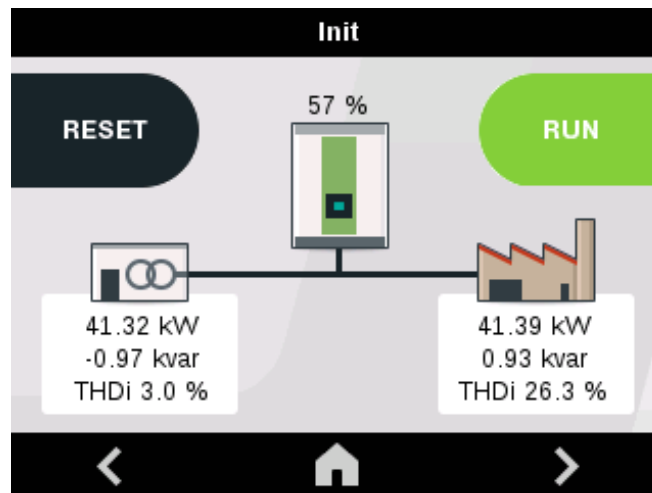

Figure 39: Home screen.
When the device has been powered up, the display will show the screen in **Figure 39**.
4.- Go back to the home screen of the device, **Figure 39**, if there is no problem with the connections, the upper area should show the message “**Stop**”. If there is a problem with the filter connections or the configuration, the “**Waiting for conditions**” message appears.